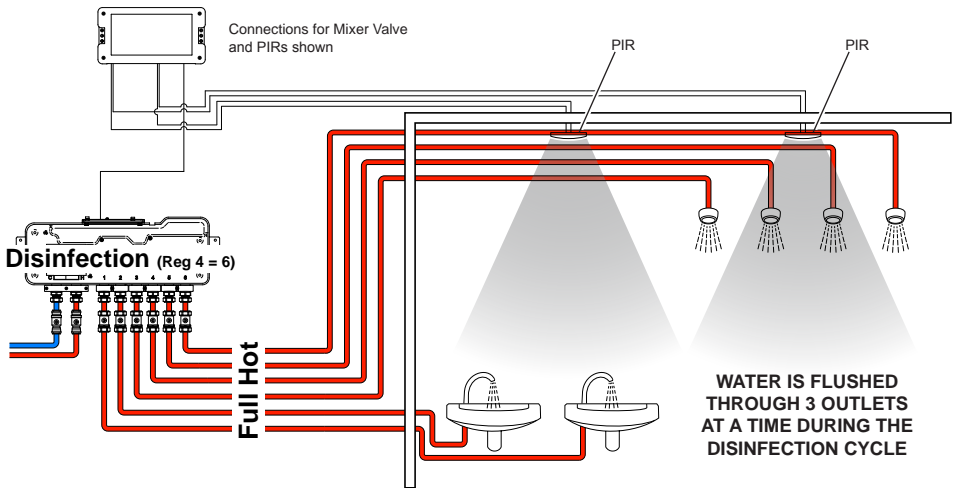

Figure 13
- A PIR connected to the Sensor Box must be used to detect the presence of any person in the affected area. The PIR should be checked to make sure that the appropriate area is covered adequately and that the Disinfection cycle can be aborted successfully (see Figure 13). Also see 'Rada Outlook Digital Mixer